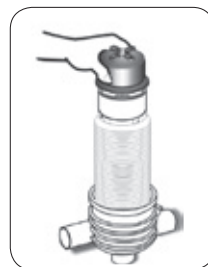

FIGURE 3
- Remove the tightening cylinder (Figure 3).